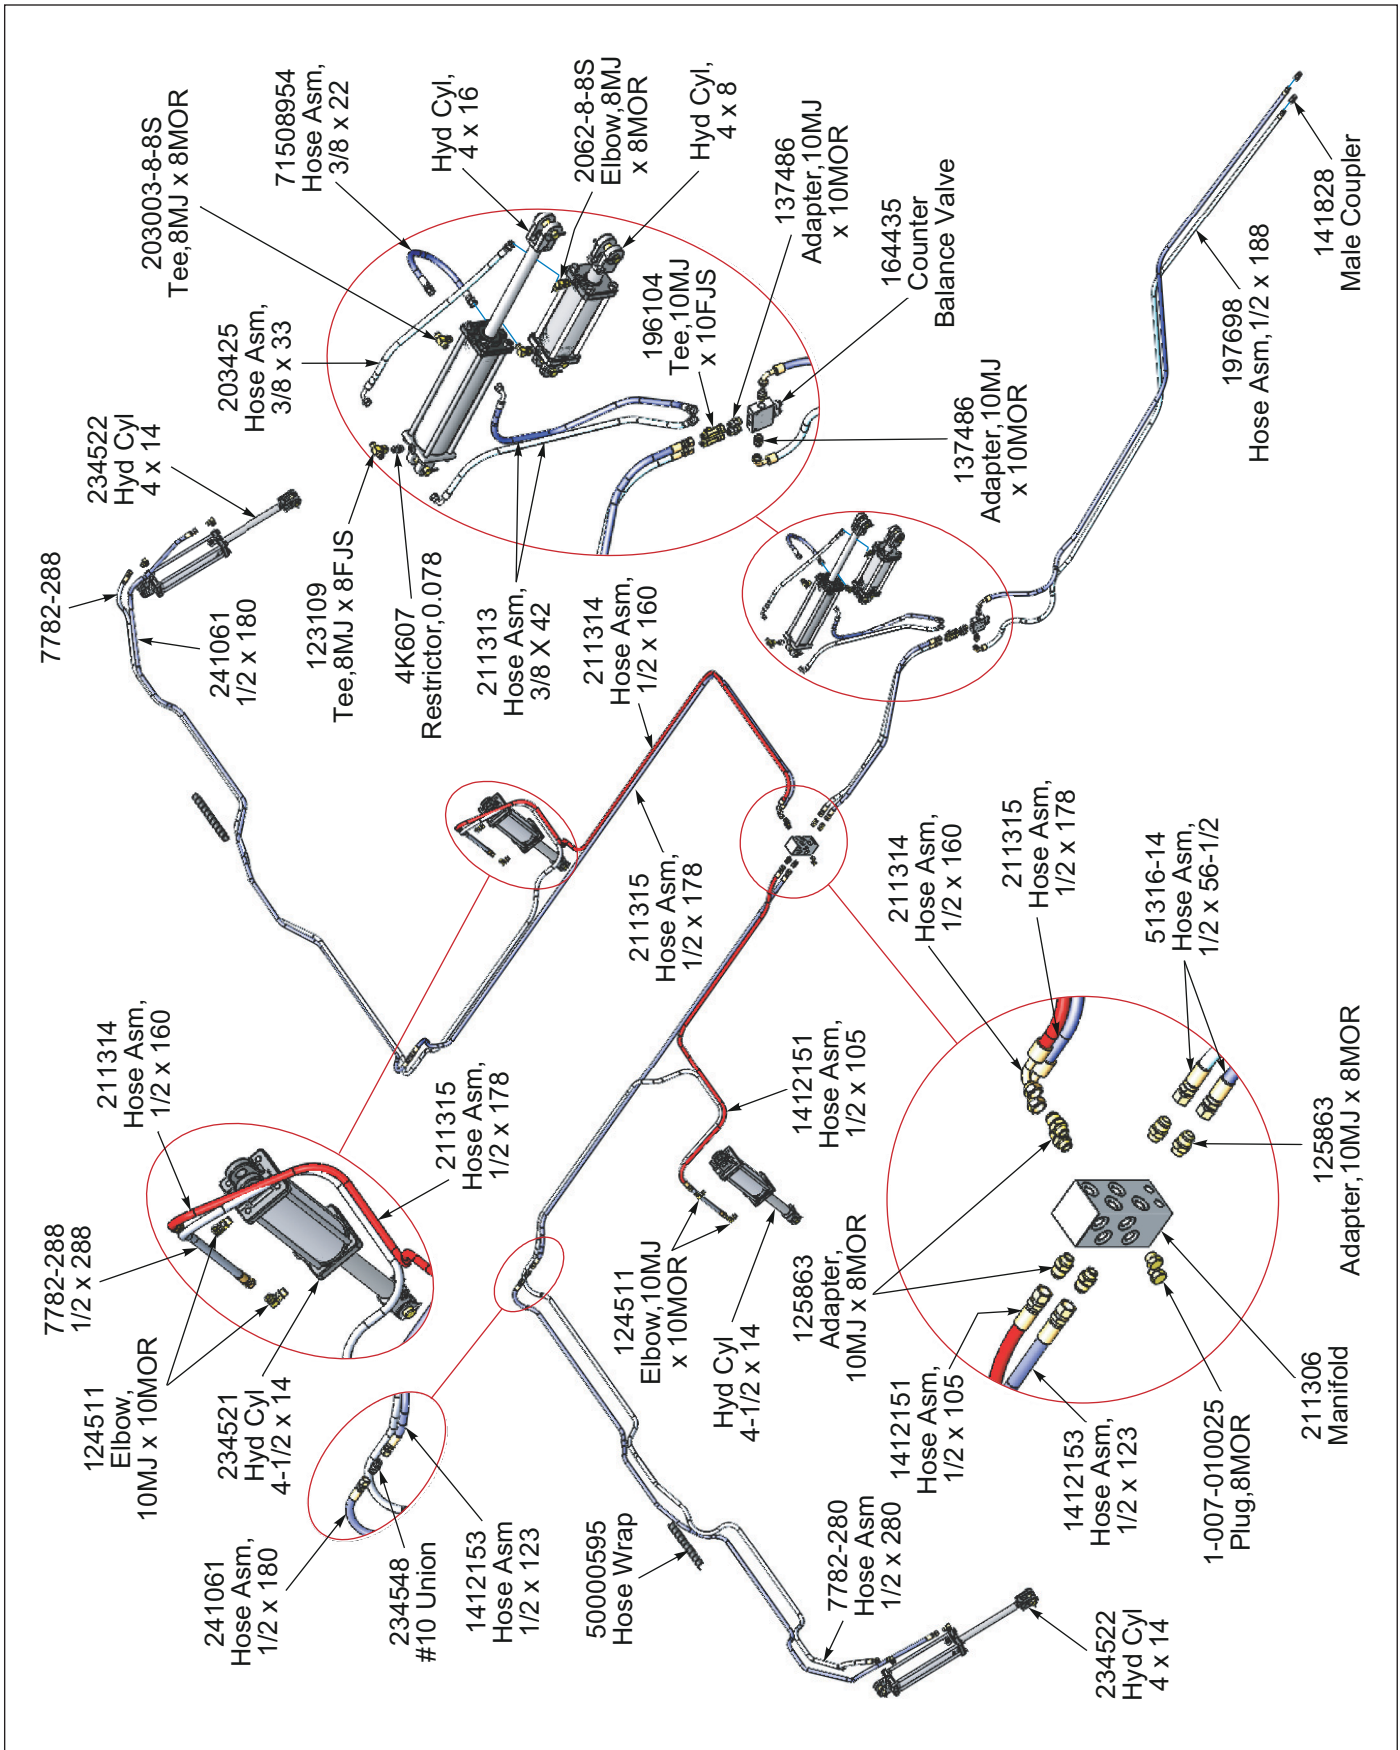

Figure 2-26: Hydraulic Lift Schematic
2. Install Counter Balance Valve fittings. **See Figure 2-26.**